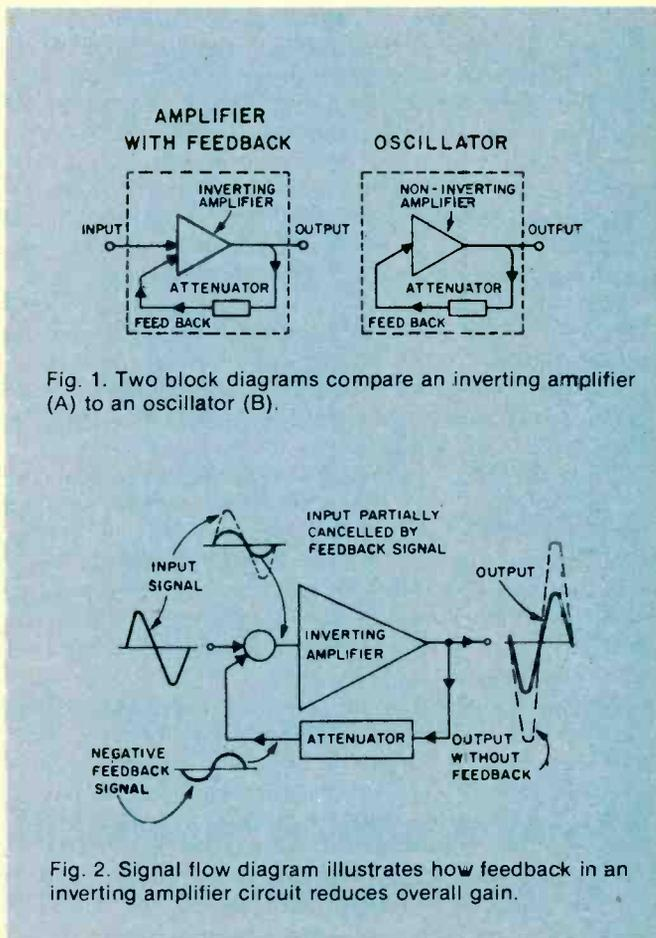
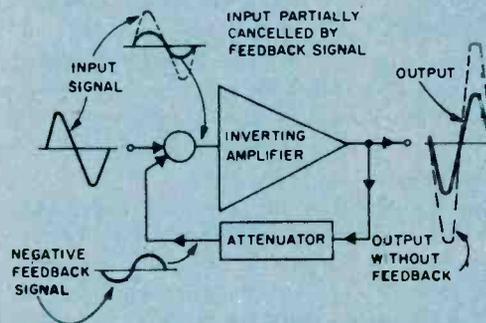
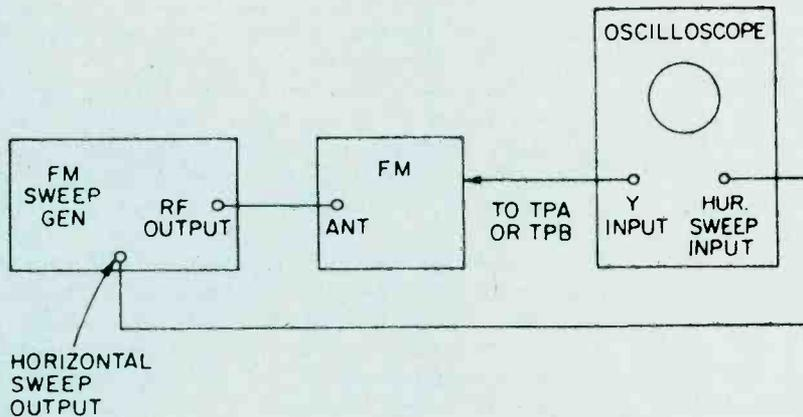

Fig. 1. Two block diagrams compare an inverting amplifier (A) to an oscillator (B).
Fig. 2. Signal flow diagram illustrates how feedback in an inverting amplifier circuit reduces overall gain.
Fig. 4. When using both a sweep generator and oscilloscope for aligning an FM set, they must be connected in the manner shown in the diagram on the right side.
regular full-wave rectified situation (see Fig. 2). This will deliver the 20 amperes required. In this circuit, the primary windings are connected in parallel, while the secondaries are connected in series.
Setting Up. Breadboard the op amp circuit shown in Fig. 2. You can use perforated board and flea clips to assemble the circuit. Better still, use a solderless breadboard kit. Use only the 741 op amp for IC1. These are short-circuit proof and are internally frequency compensated to prevent oscillations. Switch S1 may be simulated by a clip lead.
• **Unity Gain Follower.** Simplest of the op amp circuits, the unity-gain follower shown in Fig. 2 has a direct connection from output to the inverting input. This provides one-hundred percent negative feedback. With switch S1 at position A, the + input is grounded and meter M1 indicates zero. By rule 3, the - input is at virtual ground. Therefore, V_{OUT} is also at virtual ground. With S1 set to position B, the meter now indicates the voltage of battery B1, near 1.5 volts. By rule 4, the 1.5 volt increase at the + input must be accompanied by a 1.5 volt increase at the - input. Hence, V_{OUT} must rise to 1.5 volts.
The resulting closed-loop gain, or AV_{CL} , is unity (one unit out for one unit in). However, the high AV_{OL} inside the IC itself is still present, enforcing close compliance with the several rules. As noted on Fig. 2, actual input and output resistances Z_{IN} and Z_o are much improved due to feedback. The resultant input resistance now equals Z_i times AV_{OL} or 400,000 megohms for the 741 op amp! The resultant output resistance now equals Z_{oi} divided by AV_{OL} , or .0035 ohms! Consequently, the unity gain
The fundamental block diagrams of an oscillator and an amplifier with feedback bear a strong resemblance to each other, as you can see from Fig. 1. From a block diagram viewpoint, both diagrams are *very* similar. Both contain some type of amplifying device, and both have part of their output signal fed back to their input. There are only two major differences between them:
The circuit action obtained from these two circuits is entirely different. In the amplifier with feedback, the output waveform is upside down with respect to the input, so when it is fed back to the amplifier input, it cancels a portion of the input waveform. The output is therefore less than it would be without feedback. See Fig. 2.
The basic advantage of this type of circuit is that the greatest part of the RF gain, and bandpass characteristic of the receiver, is provided by the IF stages, and is a constant for all received frequencies. Thus, the manufacturer of the receiver can precisely determine the sensitivity and selectivity of the receiver. Proper alignment ensures that the receiver performs exactly the way the manufacturer intended. Refer to Fig. 1, which is a simplified schematic diagram of the RF and IF sections of a typical modern day AM receiver.
In Fig. 1., simplified AM radio schematic, you will note a combination mixer-oscillator stage, and two stages of IF amplification. This circuit is typical of a minimum cost AM receiver which has a two gang tuning
Fig. 1. This circuit diagram illustrates a common AM radio configuration. Signals are picked up by the loopstick antenna and then fed to the base of transistor Q1, which is used as a combination local oscillator and mixer: signals are parallel to base.
In the circuit of Fig. 1, the received signals is picked up by the loopstick antenna and is fed to the base of Q1. This transistor stage is used as a combination local oscillator and mixer, and is actually a Hartly oscillator with the received signal being placed in series with the base drive of the oscillator. The frequency of oscillation is determined by C3, C4 and T1. At the same time C1, C2 and the loopstick antenna are tuned to the received signal frequency. The output of T2 contains several frequencies: the radio station frequency, the local oscillator frequency and two new frequencies equal to the sum and difference of the local oscillator and received frequency.
FM Circuitry. Fig. 2, is a simplified schematic of a typical FM receiver. In this diagram you will note the similarity with the AM receiver schematic of Fig. 1. This basic difference, aside from the higher operating frequency, is that the FM receiver employs an RF amplifier stage, Q1.
requires a solid signal in the IF amplifier, so that effective limiting takes place. Note also the requirement of a three gang variable capacitor instead of the two gang as appears in Fig. 1. The additional cost and size of this capacitor is one reason why most AM receivers have no RF amplifier stage.
In the case of FM reception, and especially Stereo Multiplex FM, good reception requires a receiver with at least 150 KHz bandwidth. It is the nature of FM to have significant sidebands on either side of the carrier frequency, as far away as 75 KHz. Such a wide bandwidth in the IF stages of an FM receiver cannot be attained by tuning each stage to the same frequency. What is done is to stagger tune each stage, so that the resultant overall response has the required bandwidth. Note that each IF transformer in Fig. 2 has separate tuning slugs for primary and secondary which permit stagger tuned alignment.
Fig. 2. While there are similarities between FM and AM circuitry, the most obvious difference shown in this FM circuit schematic is an RF amplifier stage to boost signals.
Some receivers may have highly selective front ends which make injection of the 10.7 MHz IF through the RF stages difficult. In these receivers you may couple the output of the signal generator to the input of the first IF amplifier stage through a 10-pf capacitor. This point is shown in Fig. 2, as test point C. Use only sufficient signal strength to achieve a usable display on the oscilloscope. Fig. 4, is a typical connection diagram of the receiver, generator and oscilloscope.